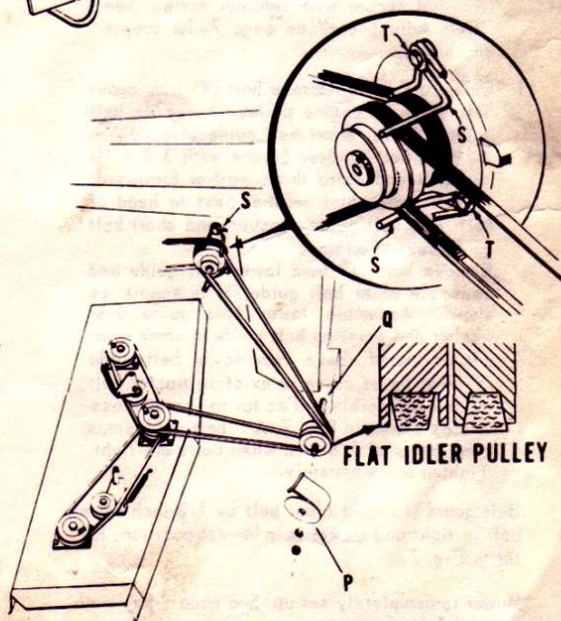

FIG. 7
9. Remove nut, lockwasher, and belt guard (P) from front idler shaft (Q). Place belt on idler sheaves and on engine pulley as shown. Replace belt guard (P) and secure with nut and lockwasher. IMPORTANT: Mower belt will be in 3rd groove from engine of engine pulley. See insert for proper way of installing belts on idler pulleys. Back of belt must be against the flat idler as shown. Refer to Fig. 7.
10. Assemble adjusting pin (S), to idler frame (R), and secure with retainer spring. See "Belt Adjustment" on page 7, for proper adjustment.
11. Refer to Fig. 7. Remove bolt (T) from upper belt guide at engine pulley. Assemble belt guide (S) over short belt guide with washer between belt guides. Secure with $3/8 \times 1\frac{1}{4}$ hex bolt and extra thick washer furnished. NOTE: extra thick washer next to head of bolt, new belt guide, washer, and short belt guide next to engine. Remove bolt (T) from lower belt guide and assemble other belt guide (S) to engine as shown. Assemble lower belt guide over washer and existing belt guide in same manner as stated above. New lower belt guide (S) must be as close to existing tractor belt guide as possible and as far to rear as possible as shown in Fig. 7. All belt guides must clear belts by $1/8$ inch when belts are tight. Tighten bolts securely.
Belt guard (P) must clear belt by $1/8$ inch when belt is tight and mower is in lowest position. Refer to Fig. 7.